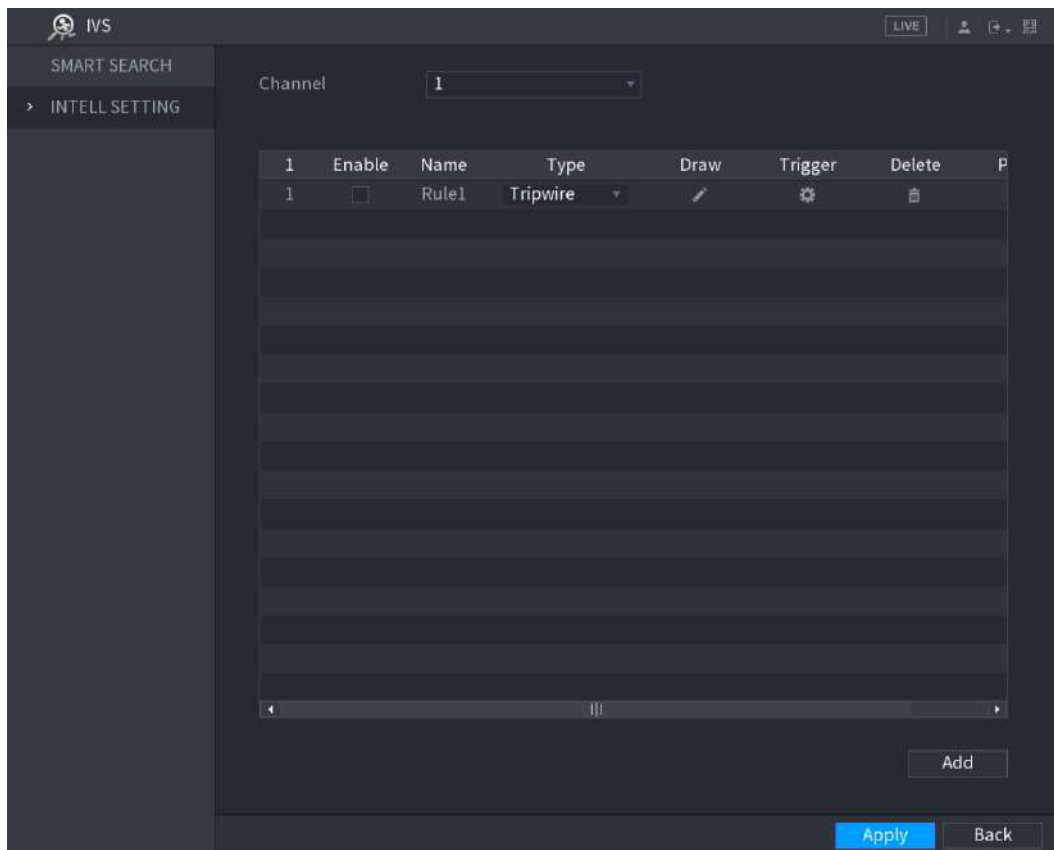

Figure 5-135
Step 1 On the rule line that you added, in the **Type** list, select **Tripwire**. See Figure 5-135.